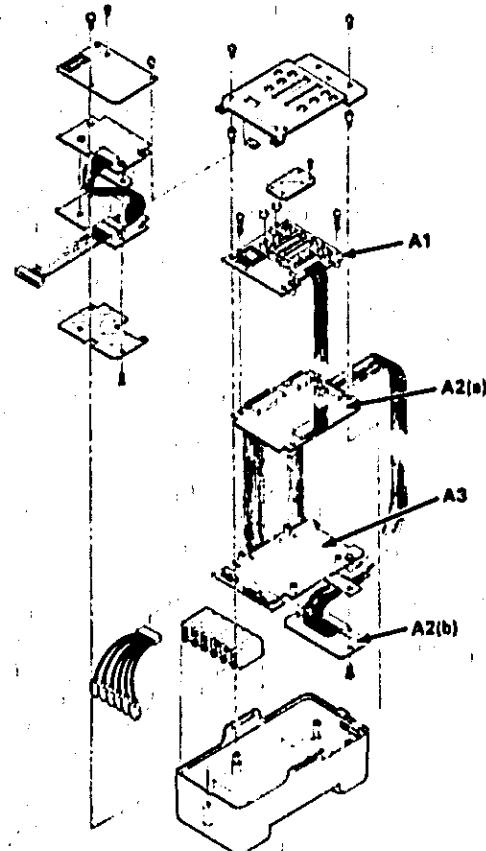

Figure 8-4. Board Assembly Sequence HP 4925B
- b. Fold the boards back up. A1, the Display Board goes on top, fold A2, the Control Board under it, then put A3, the Transmitter/Receiver Board under A2. Secure the shield under A3. Figure 8-4 illustrates the correct board sequence.